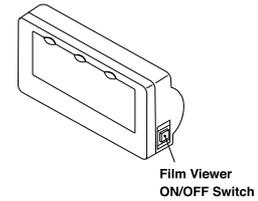

Fig.3-19 Dental Size Film Viewer
- (7) Dental Size Film Viewer (Optional) (Fig.3-19)